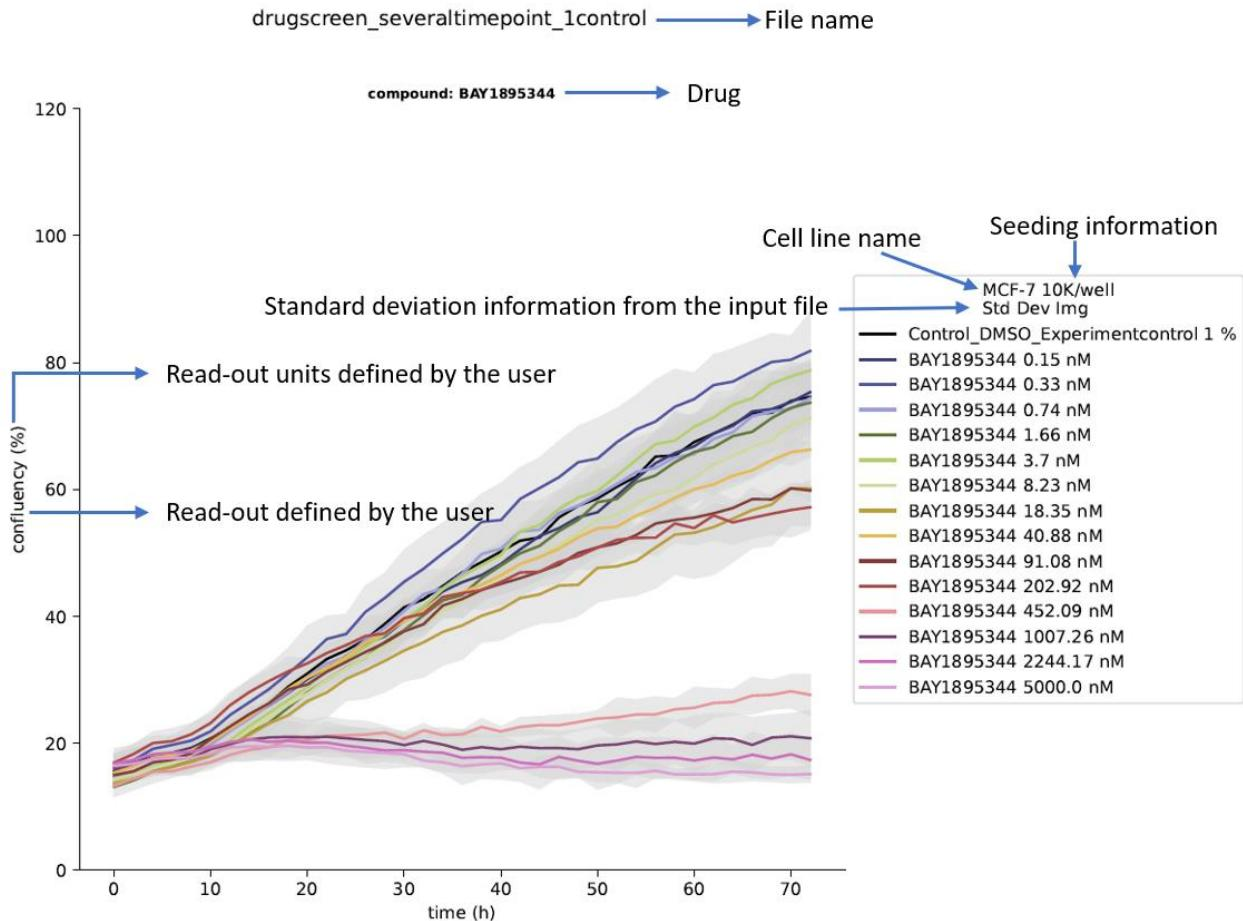

Figure 19: XY-plot example of raw data regarding to all dosages tested of BAY1895344. Y-axis is the read-out provided by the user and on the X-axis is time.
- Raw data plotted as XY-plot shown on Figure 19.